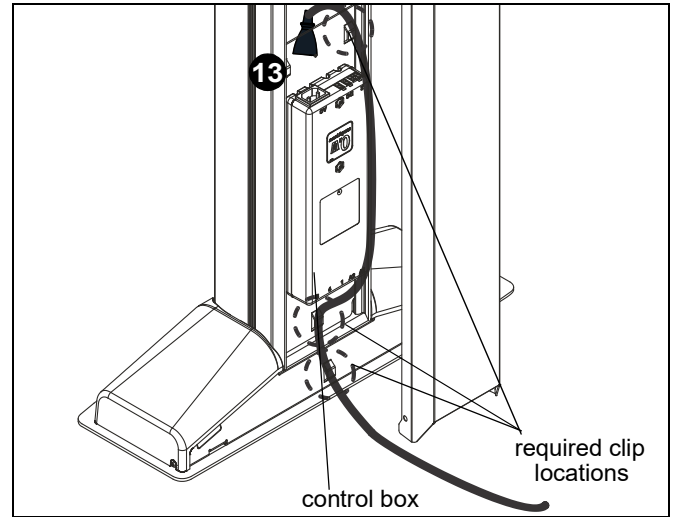

Figure 8
13. Plug in power cable (V) to control box and route along side of control box. Provide strain relief using the cable ties (K) and cable clips. All three cable clips **MUST** be used to prevent cable from rubbing against lower edge of cover! (See Figure 8)